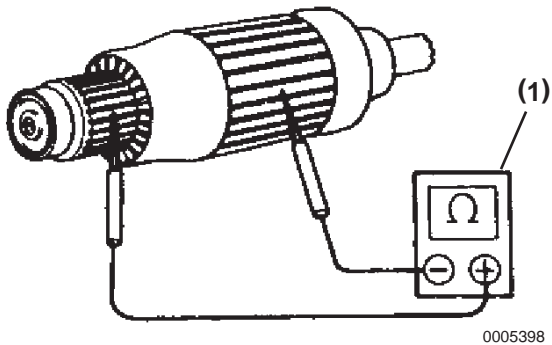

Figure 10-11
2. Using an ohmmeter (**Figure 10-11, (1)**) check the commutator for continuity between the commutator and armature coil. If electrical continuity is measured, replace the armature.